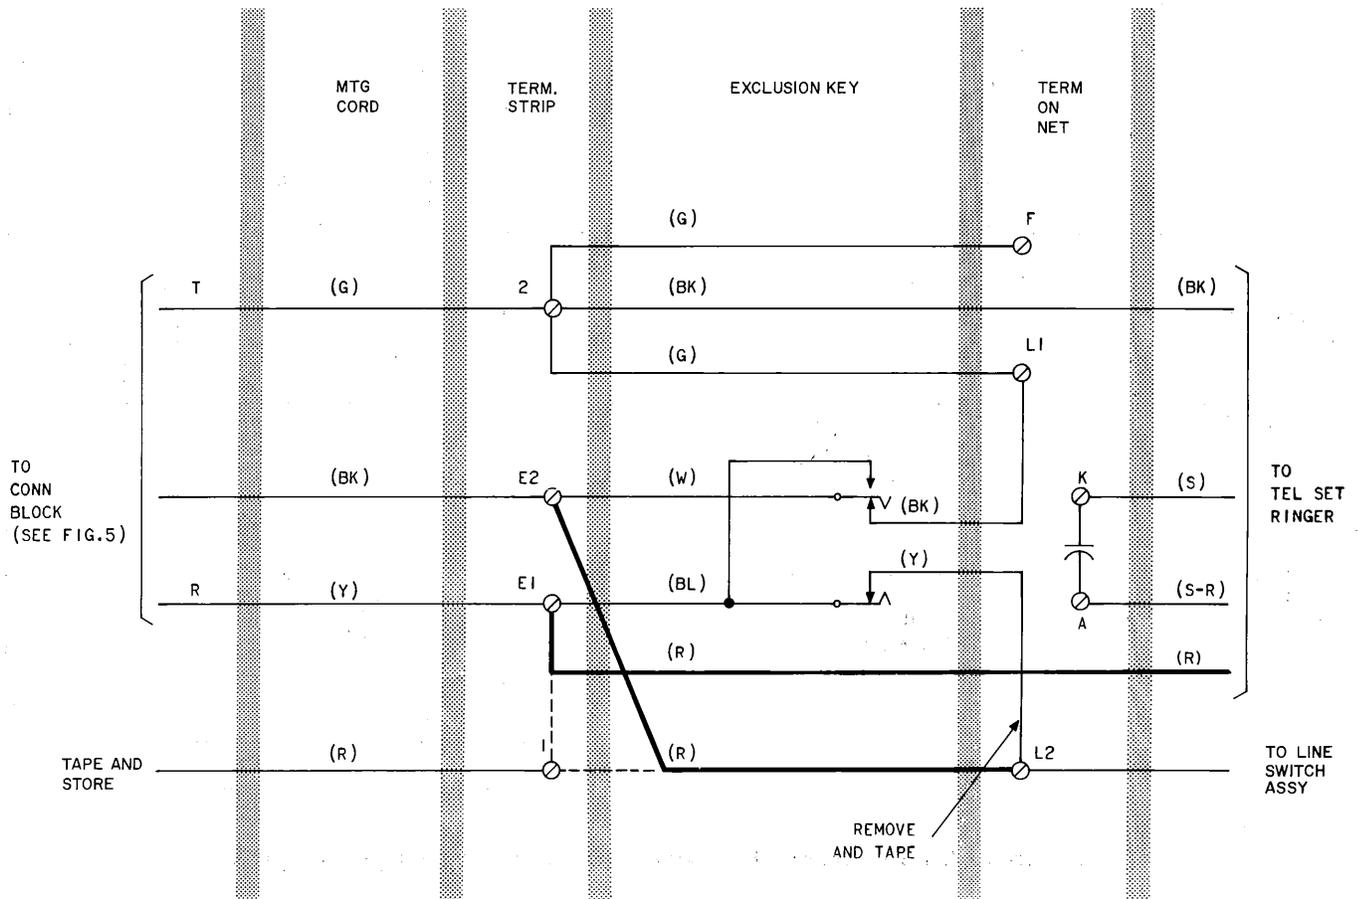

Fig. 7—Typical Rewiring of Exclusion Key Using 502-Type Telephone Set
**3.05** The exclusion key on the telephone set must be rewired to provide the necessary talk and data control functions. Figure 7 shows the rewiring necessary for a 502-type telephone set.